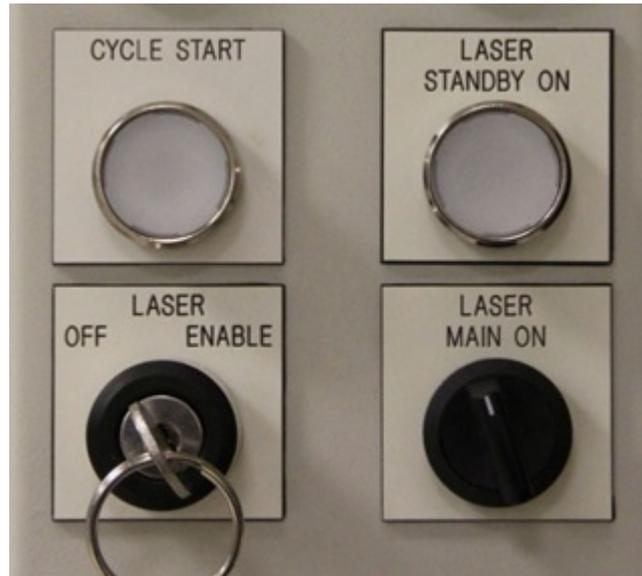

Figure 20: Lower portion of the workstation front control panel. These buttons/switches control the laser status.
17. (Figure 20) Turn the **LASER MAIN ON** switch located on the workstation front control panel **CLOCKWISE**. The lower message display on the laser source pendent screen will change to read **Cooling Start**. This message will remain for 30 seconds.
18. (Figure 20) After 30 seconds the lower message display will read **Standby Enabled**. When this is displayed, press the **LASER STANDBY ON** button on the workstation front control panel. If everything has been done properly up to this point, an audible **CLICK** will be heard coming from the laser source and the **red** status light on both the laser source and the workstation will turn on and stay on. If no click is heard and the lights do not stay on, consult a lab tech to troubleshoot.
20. (Figure 20) The last physical step to enabling the laser is to turn the **LASER** key on the front control panel to **ENABLE**. The lower message display on the laser source pendent will now read **Laser Enabled** and the laser can now be fired.